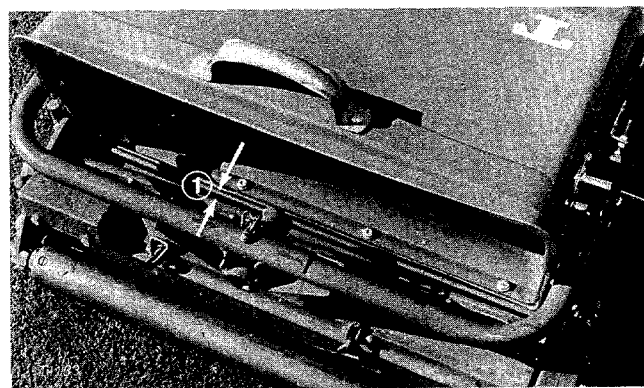

Figure 8
2. Measure distance between lip of basket and edge of cutting unit shield. There should be a clearance between the components of no more than 1/4 inch (6 mm) (Fig. 8). If the dimension is incorrect, adjust basket.